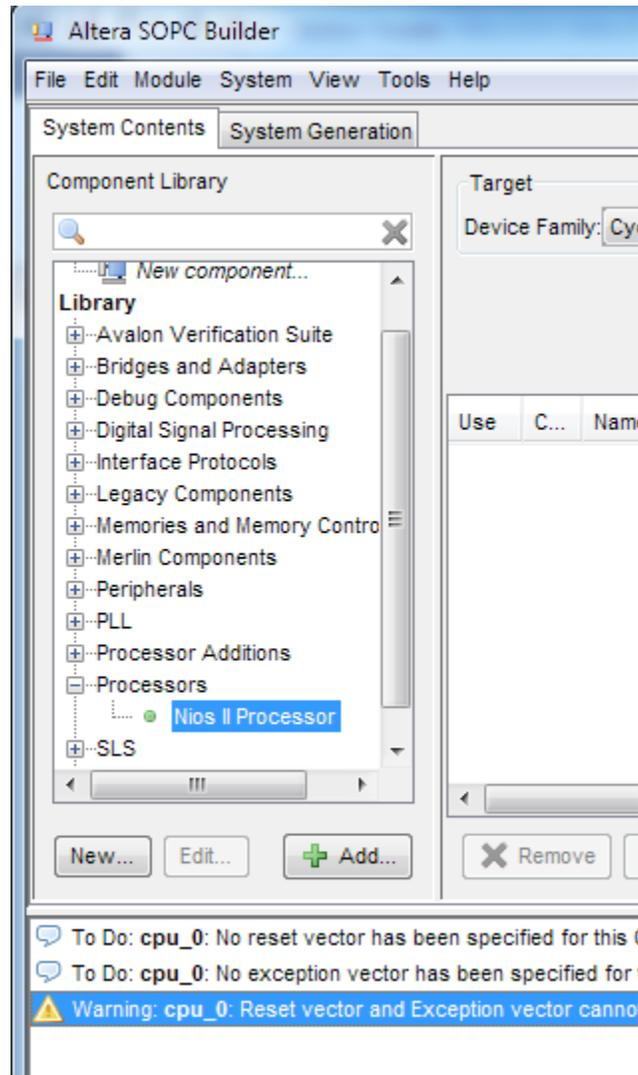
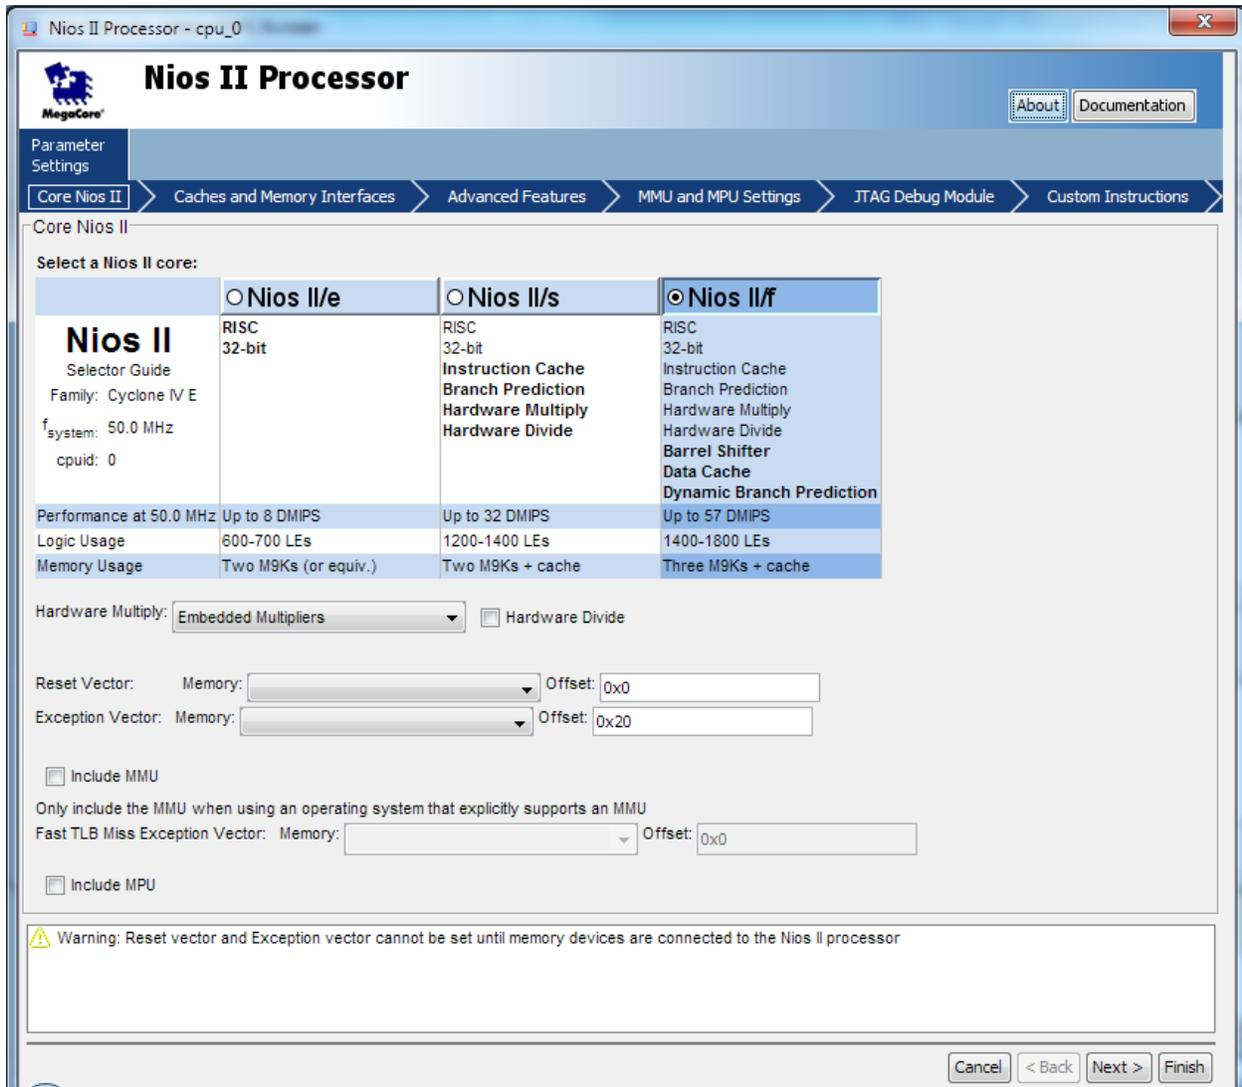

Figure 1-14 Add Nios II Processor
Figure 1-15 Nios II Processor
8. Choose **Library > Processors > Nios II Processor** to open wizard of adding cpu component. See Figure 1-14 and Figure 1-15.